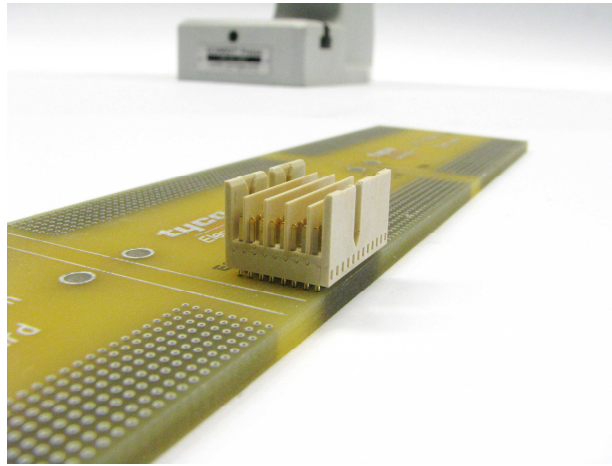

Figure 5
1. At first the male connector is placed onto the pc-board. Make sure that all pins are fitted into the according plated through holes properly (see figure 5).